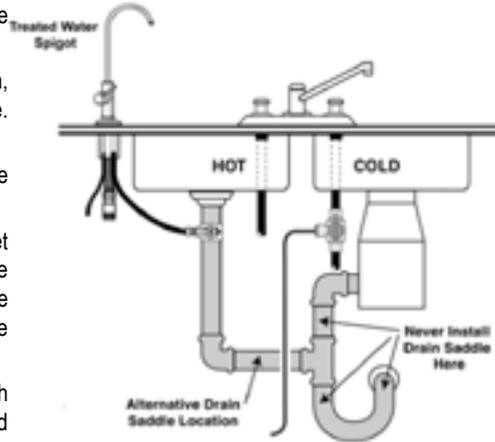

Figure 7: Drain Saddle Assembly Mounting Locations
A. Position the drain saddle in the desired location, mark the spot to be drilled, and remove the saddle. (See Figure 7).